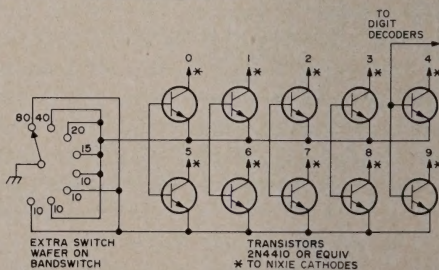

Fig. 5. Using a wafer switch to ground the appropriate Nixie drive for "adder" function.
The one remaining readout problem is that of the most significant digit. If you want the digital dial to be accurate on all bands it must read: (3)745.92 kHz on 80 meters, and (7)245.92 kHz on 40 meters. One way this can be done is to have different drivers for the Nixie, and ground the appropriate one with an extra wafer on the band switch (see Fig. 5). By driving the bases in parallel and grounding the emitters of the appropriate group, a cheap and dirty "adder" is constructed.